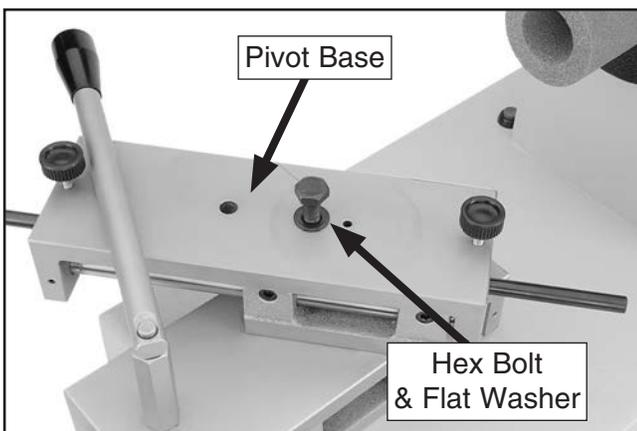

Figure 8. Jig mounting hex bolt and flat washer.
2. Remove the jig mounting hex bolt and flat washer shown in **Figure 8** from the pivot base.